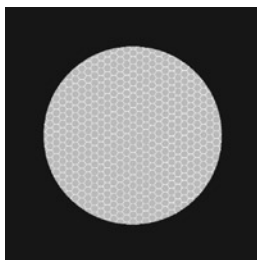

Figure 3-6. Fixed-Pattern Noise
(3) Black Spots. These are cosmetic blemishes in the image intensifier or dirt or debris between the lenses. Black spots are acceptable as long as they do not interfere with viewing the image. No action is required if this condition is present unless the spots interfere with the operator's ability to view the image or to perform the mission.
(4) Fixed-Pattern Noise. This is usually a cosmetic blemish characterized by a faint hexagonal (honey-comb) pattern throughout the viewing area that most often occurs at high light levels or when viewing very bright lights (see Figure 3-6). This pattern can be seen in every image intensifier if the light level is high enough. This condition is acceptable as long as the pattern does not interfere with the operator's ability to view the image or to perform the mission.